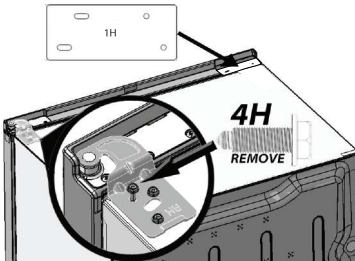

Fig. 10
- 8. a. Remove the front outer screw from the top hinge (Fig. 10) using a 5/16" socket driver or wrench and save for later. Locate bracket 1H and place it on the top of the unit to be used on Step 8d.